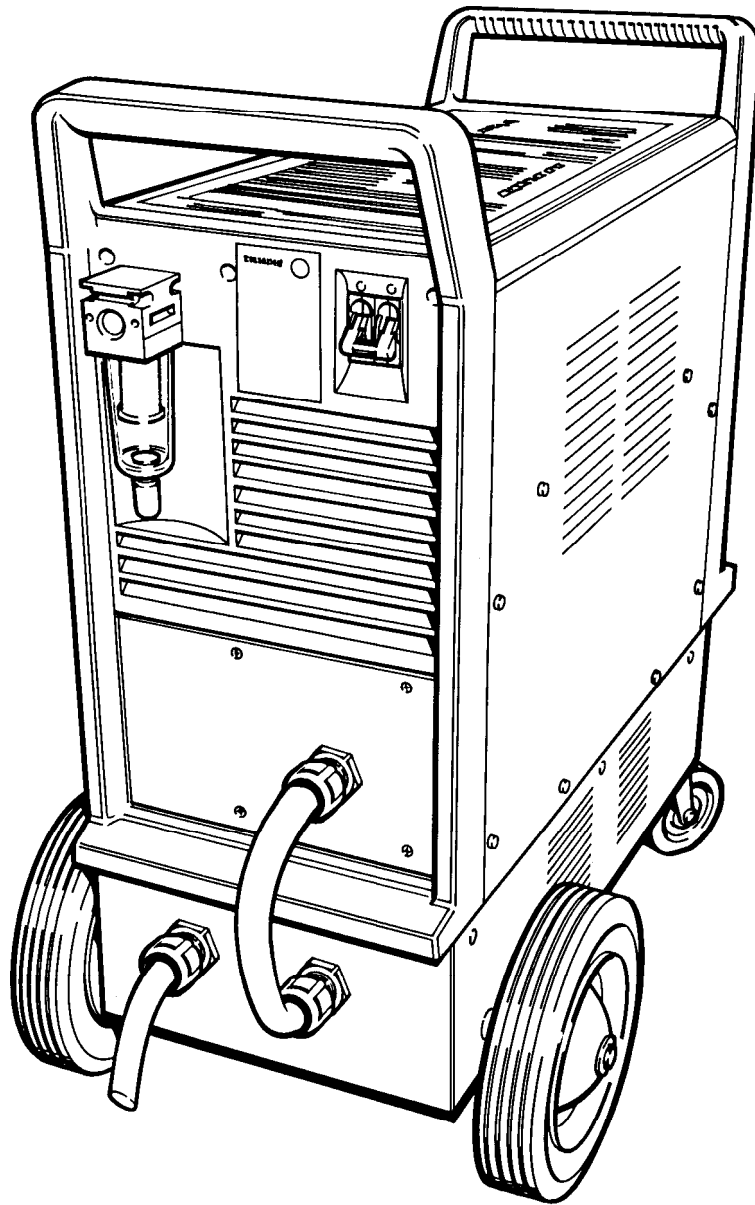

Figure 2-1 Powermax900 230V CE Power Supply Assembled
The instructions in this manual will enable a qualified electronics technician to convert the 400 volt CE Powermax900 into a 230 volt CE power supply. The kit (128313) contains a transformer and case, wheels, castors, and 2 line cords - one to hook up to a line disconnect box or 3-phase plug, and a shorter cord to connect from the transformer case to the link box at the rear of the Powermax - See Figure 2-1. See also Section 3 for a list of parts for the 230 volt CE conversion kit.
5. Replace the power supply cover. See completed assembly in Figure 2-1.